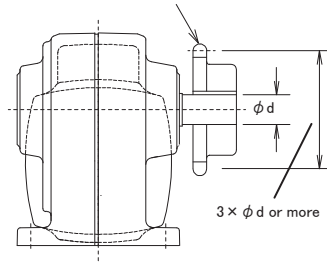

Fig.2 Sprocket position
- (3) To prevent damage caused by the overhang load, adjust the positions of the sprocket, gear, pulley, etc. decide the loading position as close as possible to the joint of the output shaft and the gear case. (refer to Fig. 2).
* Although Figs. 2 and 3 show the right-angled shaft series examples, the same conditions apply to the parallel shaft series.